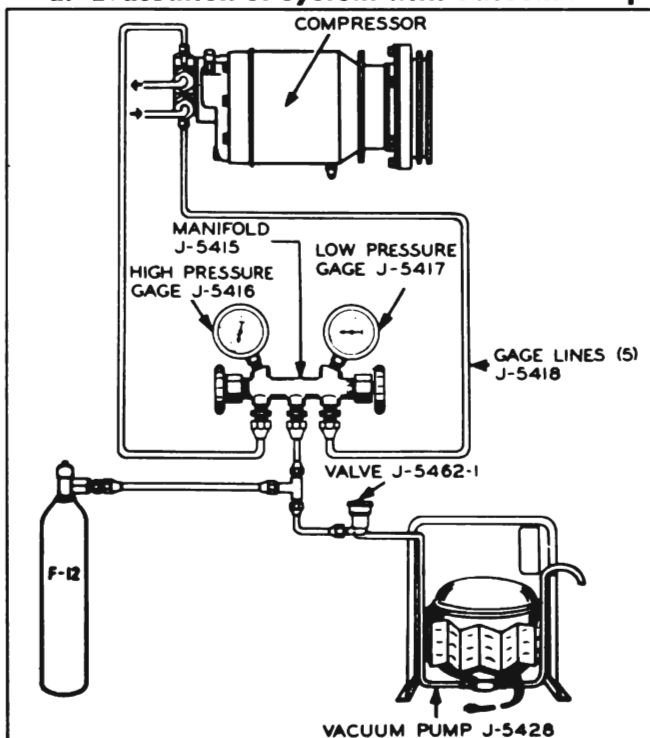

Figure 11-56—Service Charging Hook-Up
1. Attach gauge lines and vacuum pump set-up as shown in figure 11-56.
1. Hook up gauges, lines and Freon 12 Cylinder as shown in Figure 11-56, but substitute a bottle or other suitable container in place of the vacuum pump. The container is to catch the
1. With the vacuum pump, Freon-12 cylinder and gauge set connected to the compressor as shown in Figure 11-56, place the cylinder in a bucket of hot water which does not exceed 125°F.